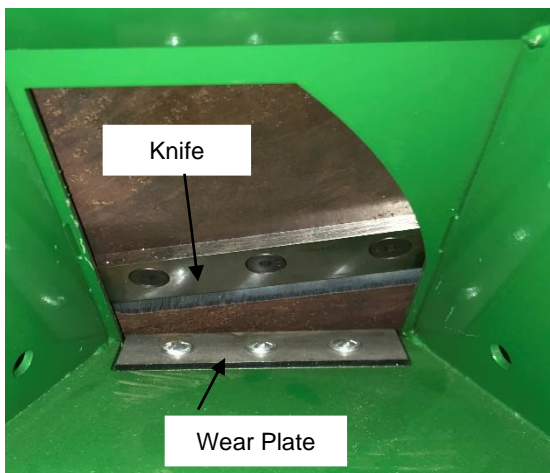

Figure 49
5. Closely inspect the Chipper Knife and Wear Plate for nicks or dull (rounded) edges (**Figure 49**).